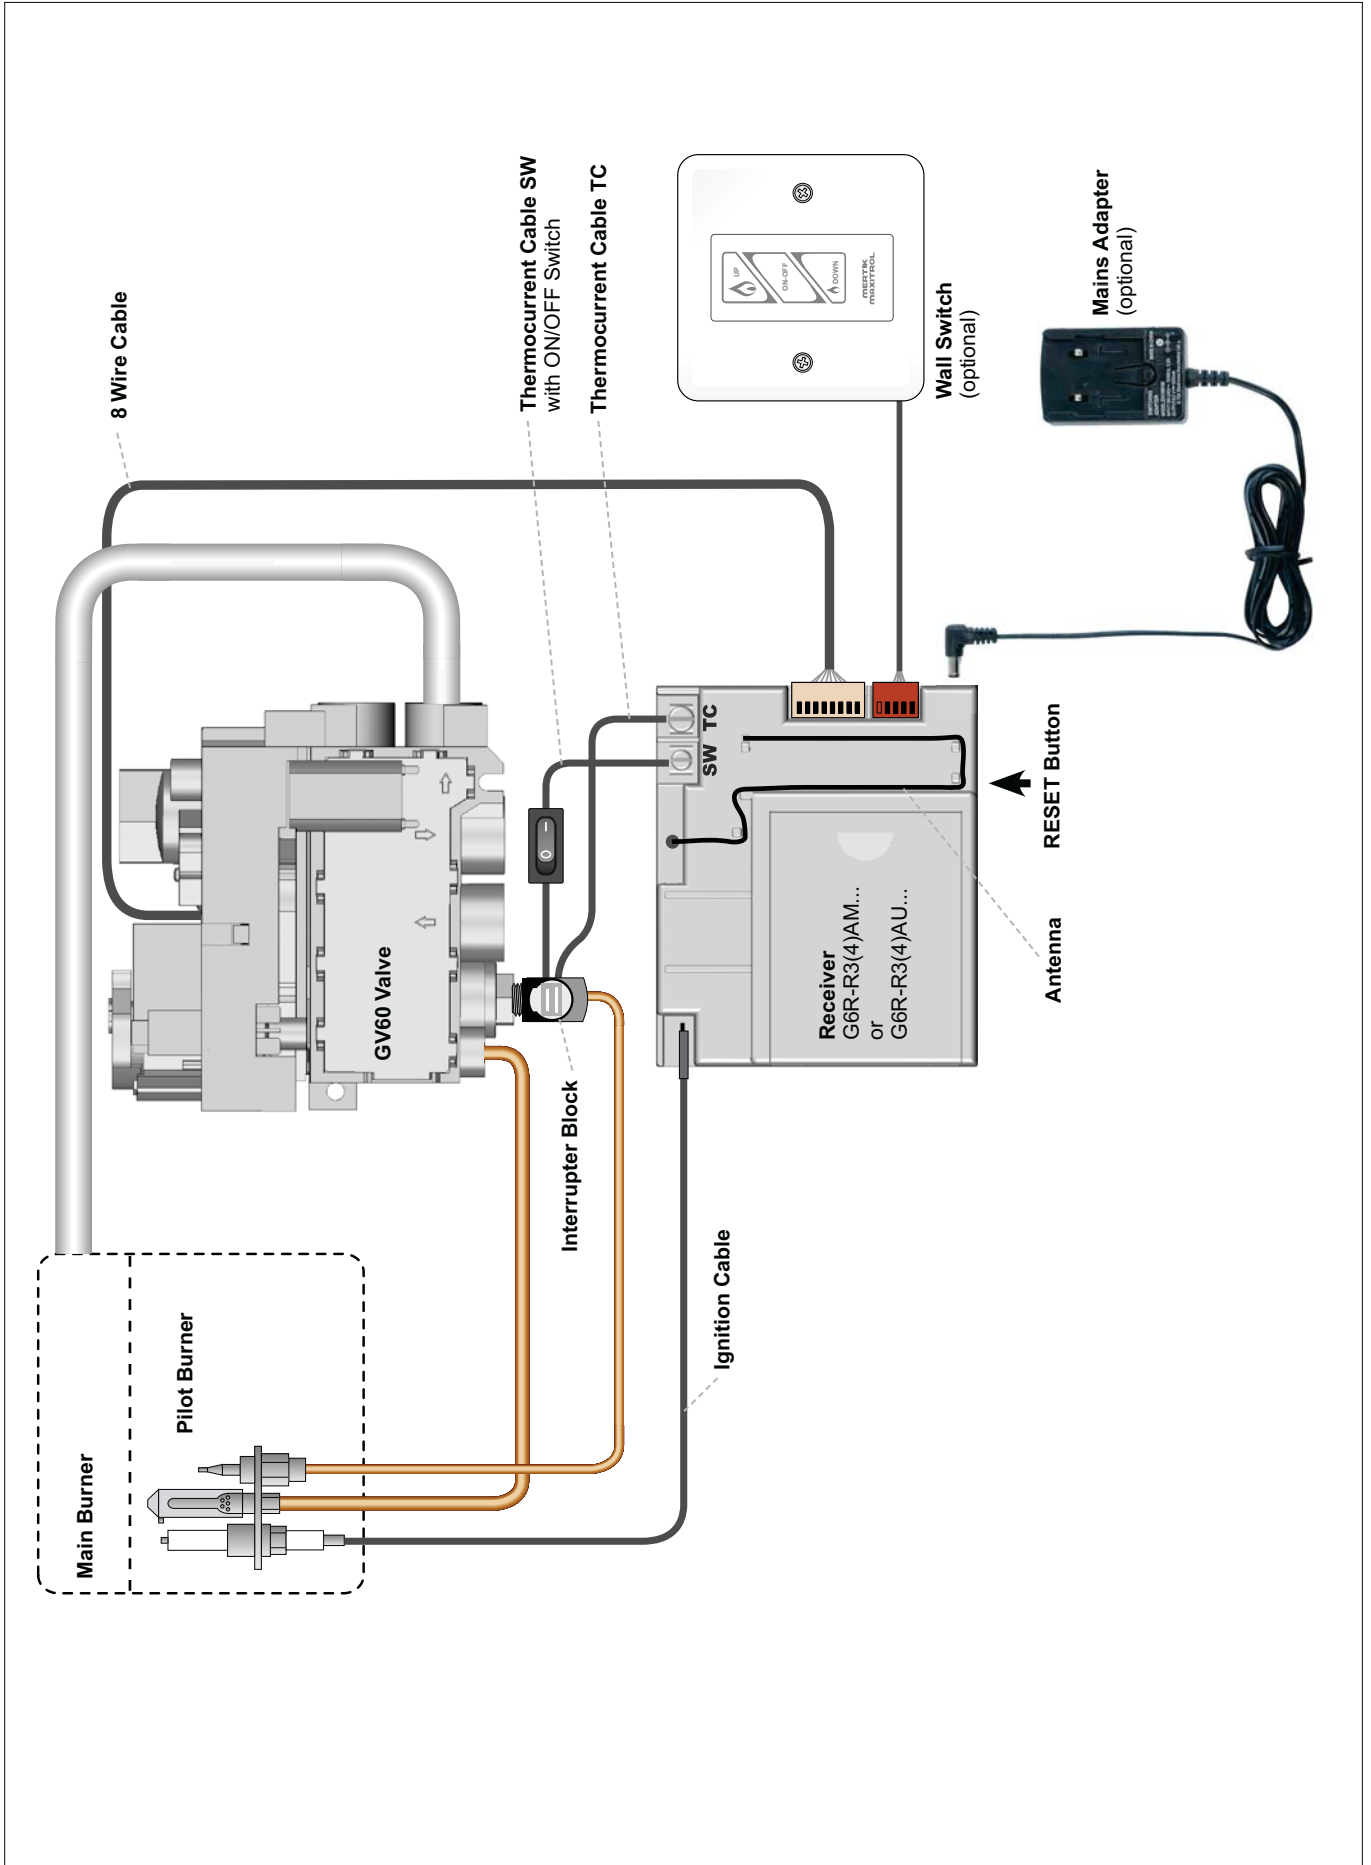

Figure 10
(See figures 10–14, pages 8–12)
3. The receiver has to learn the handset code: Press and hold the receiver's reset button (figure 10, page 8) until you hear two (2) beeps. After the second, longer beep, release the reset button. Within the subsequent 20 seconds press the ⚡ (small flame) button on the handset until you hear two (2) short beeps confirming the code is set.
4. Check the reception. For better reception straighten the antenna (see figure 10, page 8) and move it to a position that allows for better reception (see notice below).